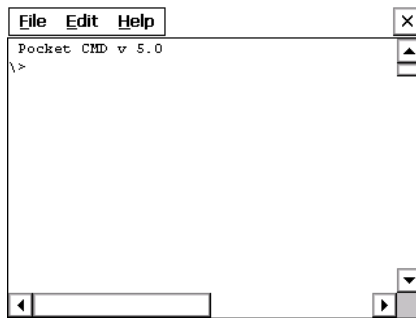

Figure 2-9. Command Prompt Window
1. Tap **Start ▶ Programs ▶ Tools ▶ Command Prompt**. The *Command Prompt* window displays (Figure 2-9).